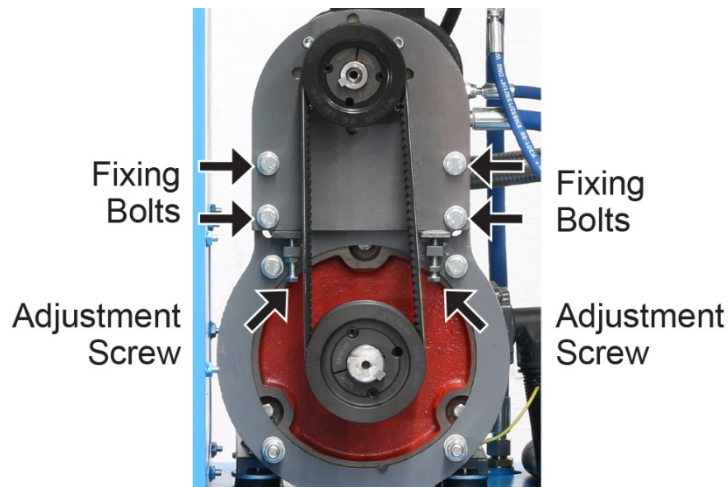

Figure 6-6 V-Belt Tension Adjustment
- c. To adjust the V-belt tension, it is first necessary to remove the V-belt drive guard. Then the four fixing bolts above the main motor should be slightly loosened, and subsequently the adjustment screws turned equally to move the air end up or down to tension the V-belts as required. After adjustment, the fixing bolts should be retightened. Refer to Figure 6-6.